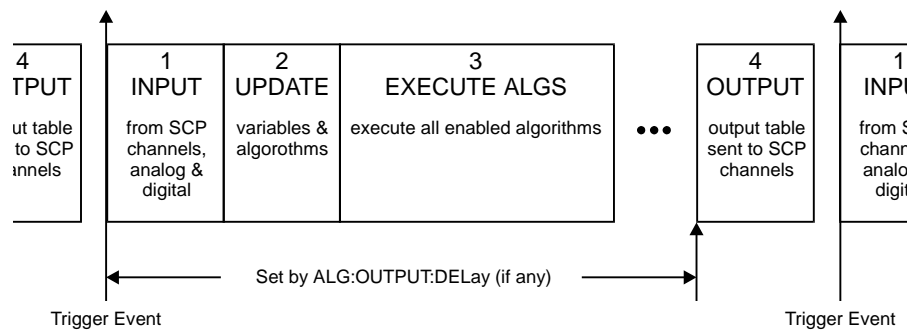

Figure 7-1. Updating Variables and Algorithms
- The algorithm output statements (e.g., O115 = Out_val) DO NOT program outputs when they are executed. Instead, these statements write to an intermediate Output Channel Buffer which is read and used for output AFTER all algorithms have executed AND the algorithm output delay has expired (see Figure 7-1). Also note that not all outputs will occur at the same time but will take approximately 10 μs per channel to write.
- Variables and algorithms can be accepted during Phase 1-INPUT or Phase 2-UPDATE in Figure 7-1 when INIT is active. All writes to variables and algorithms occur to their buffered elements upon receipt. However, these changes do not take effect until the ALG:UPD:IMM command is processed at the beginning of the UPDATE phase. The update command can be received at any time prior to the UPDATE phase and will be the last command accepted. Note that the ALG:UPD:WINDOW command specifies the maximum number of updates to do. If no update command is pending when entering the UPDATE phase, then this time is dedicated to receiving more changes from the system.
ALGORITHM:UPDATE:CHANNEL <dig_chan> This command is used to update variables, algorithms, ALG:SCAN:RATIO, and ALG:STATE changes when the specified digital input level changes state. When the ALG:UPD:CHAN command is executed, the current state of the digital input specified is saved. The update will be performed at the next update phase (UPDATE in Figure 7-1) following the channel's change of digital state. This command is useful to synchronize multiple VT1422As when all variable updates are to be processed at the same time.
- The duration of the level change to the designated bit or channel MUST be at least the length of time between scan triggers. Variable and algorithm changes can be accepted during the INPUT or UPDATE phases (Figure 7-1) when INIT is active. All writes to variables and algorithms occur to their buffered elements upon receipt. However, these changes do not take effect until the ALG:UPD:CHAN command is processed at the beginning of the UPDATE phase. Note that the ALG:UPD:WINDOW command specifies the maximum number of updates to do. If no update command is pending when entering the UPDATE phase, then this time is dedicated to receiving more changes from the system.